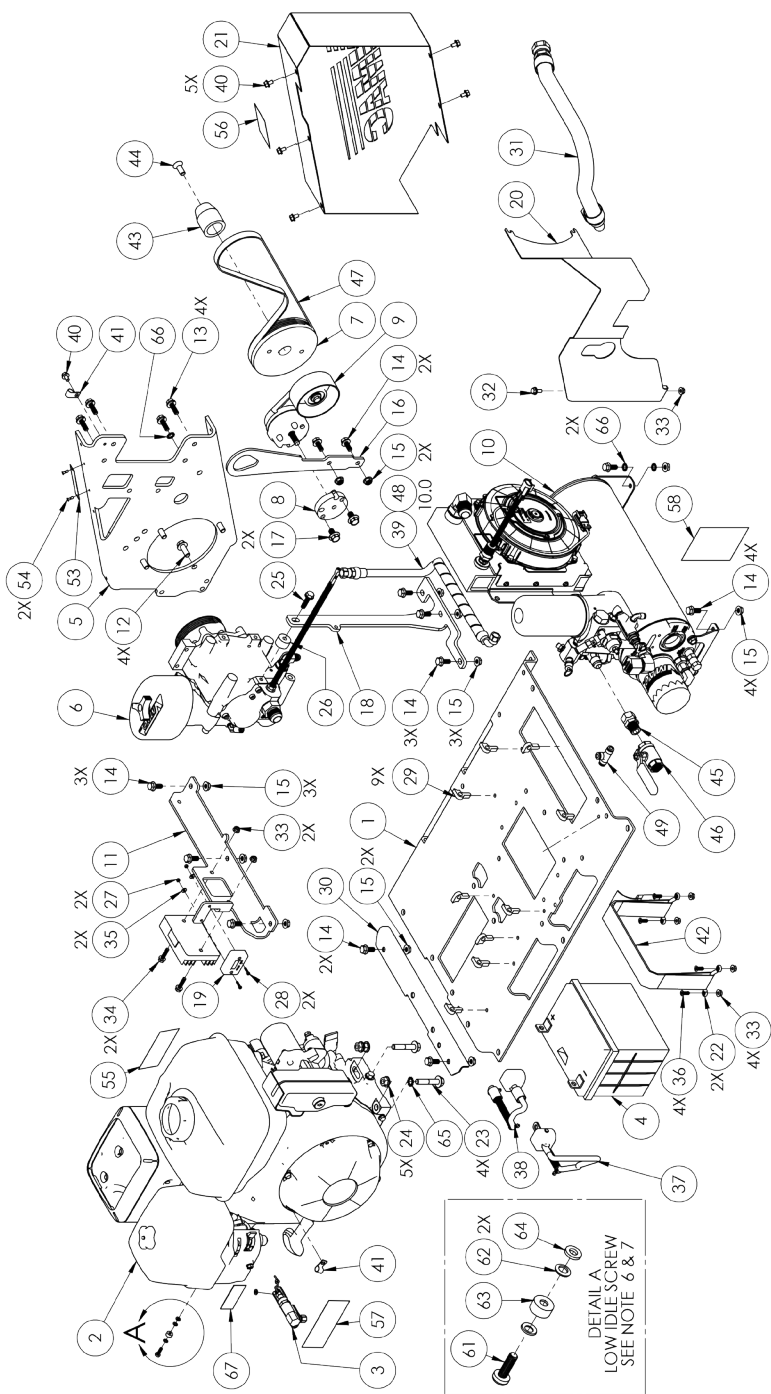

Figure 76 — Kit Pack List
1. Kit Pack List (Figure 76 on page 102)
<div>  <p>*Items 48, 49, 51, 52, 54 – 56, 63, 64, 68 – 74 not shown in Figure 76 on page 102.</p> </div>